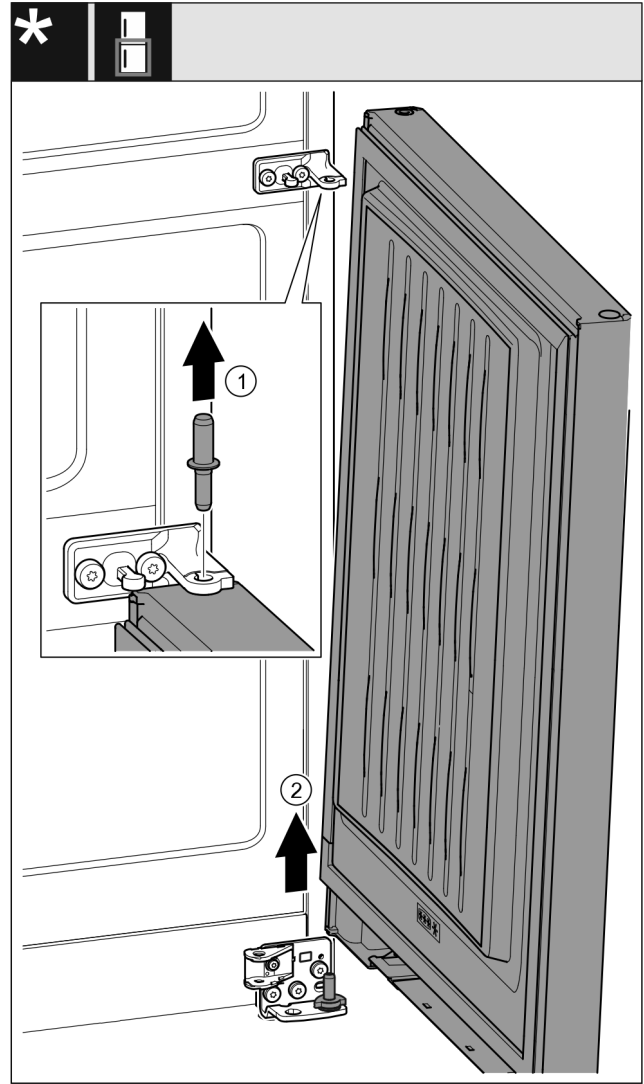

Fig. 32 With closing damper\*
- ▶ Pull out the bolt Fig. 32 (1) upwards.\*
- ▶ Swing out the door Fig. 32 (2), pull it upwards and set it aside.\*